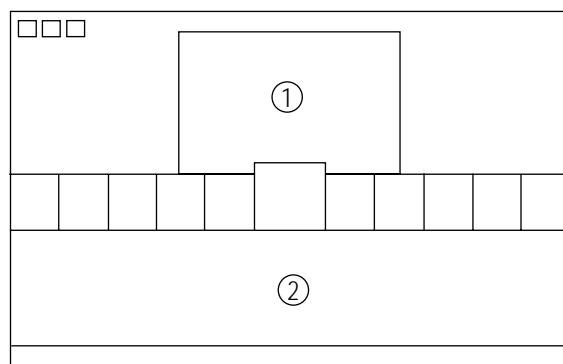

Fig. 4-4
1. Set SBT to 3.5 ± 0.5 fL in the Factory Service Mode with using CA100. See Fig. 4-4 ②.
1. Set SCT to 55 FL (20", 21"), 65 FL(14") in the Factory Service Mode with using CA100. See Fig. 4-4 ①.